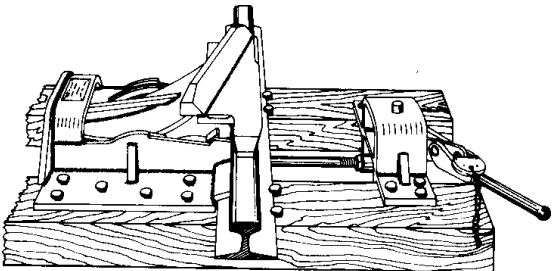

Figure 23 - Operating Stand Close
- 8.3 The Close-Coupled Operating Stand, Figure 23, is the same in construction and functions as our regular Operating Stand except long ties are not required. The staff is cut off 1/2" above base forging, vanes and lamp tip are not used due to closeness of stand to rail to provide standard clearance. Connecting rod is 37" long. Weight with connecting rod is 76 lbs.